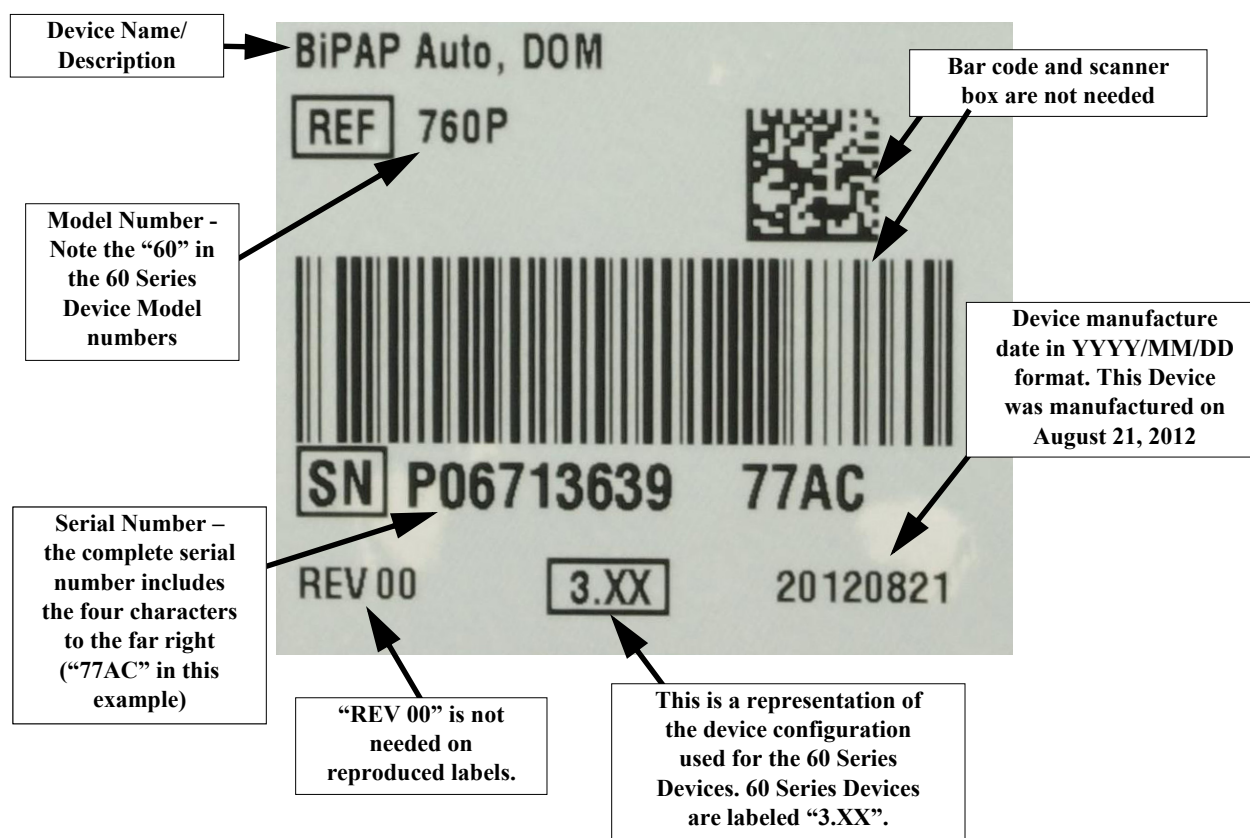

FIGURE 6-22: SERIAL NUMBER/MODEL NUMBER LABEL
There are several instances in which you will have to replace the Serial Number/Model Number Label (e.g., the label is becoming illegible or if the Bottom Enclosure is replaced). To ensure traceability of the Device, it is of utmost importance that when creating the new label for replacement, it includes all of the information from the original label. Refer to Figure 6-22.
1. Before replacing the original or existing label, design the new label in the same layout, format and font size as shown in Figure 6-22. Print the label and verify that the label information is the same as the original or existing label.